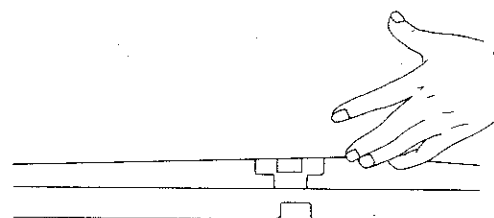

Figure 24
- (6) Detach the sheet from the writing sheet holder. (Figure 24)